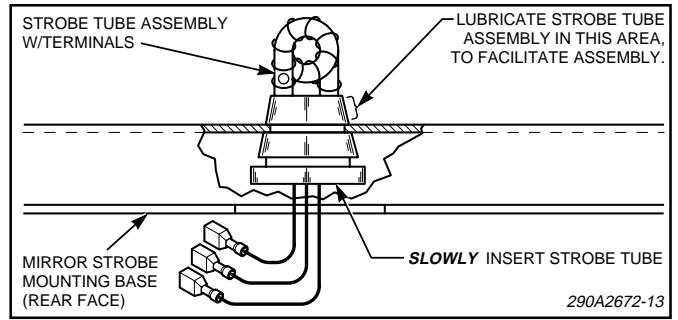

Figure 5.
e. See figure 5. SLOWLY insert the new strobe tube in the mounting bar until it is properly seated in the top slot of the strobe tube. If the strobe tube is difficult to insert, remove it and apply a high temperature grease, or Vaseline, to the rubber edge of the strobe tube and try again.